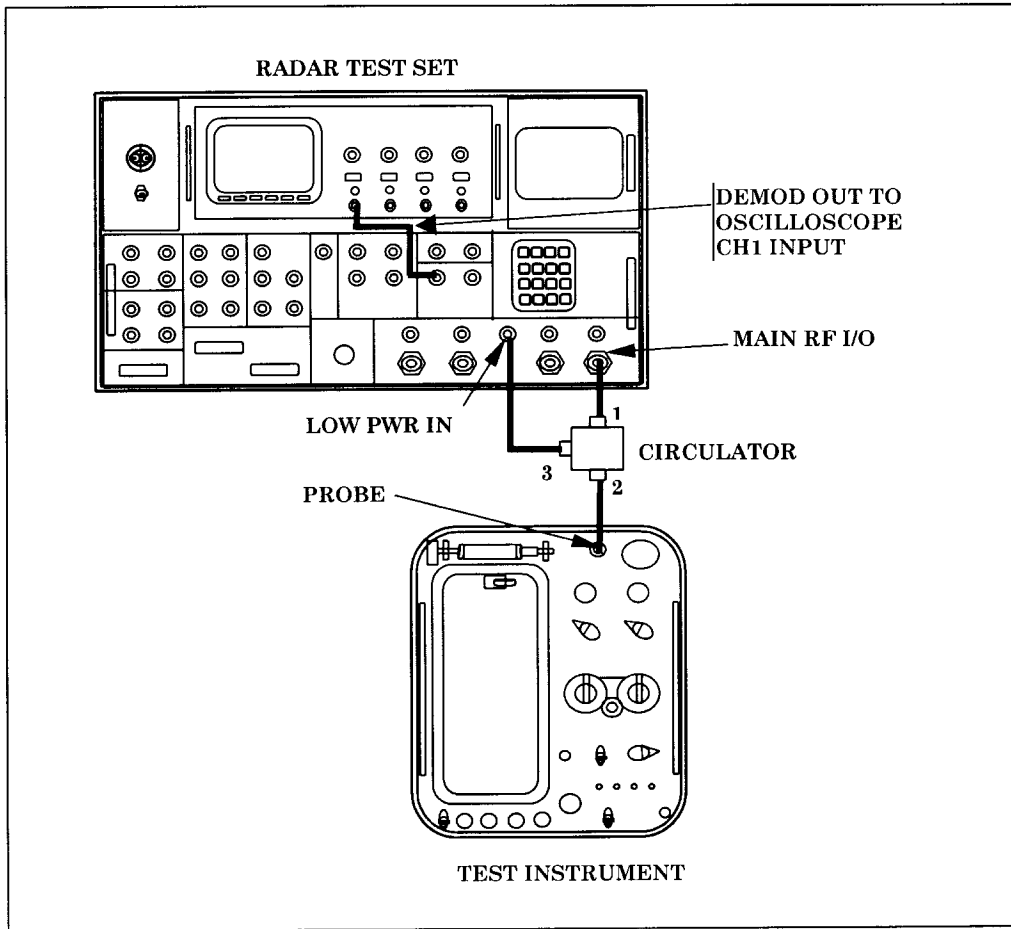

Figure 1. Preliminary equipment setup
b. Set controls as listed in (1) through (5) below:
g. Connect equipment as shown in figure 1.